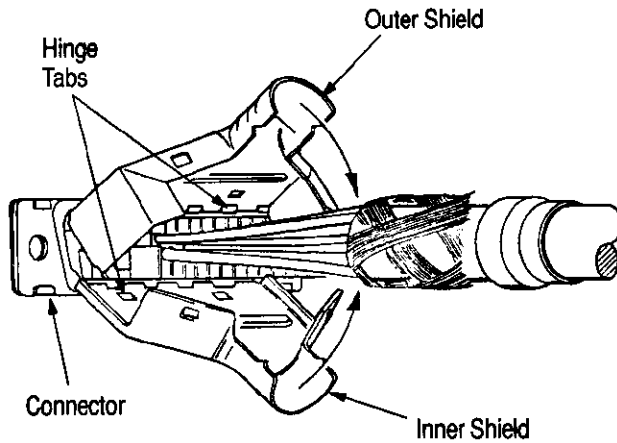

Figure 4
2. Insert the hinge tabs of the inner shield into the corresponding slots of the connector and rotate the shield 90° toward the cable. See Figure 4.
3. Insert the hinge tabs of the outer shield into the corresponding slots of the connector. See Figure 4.